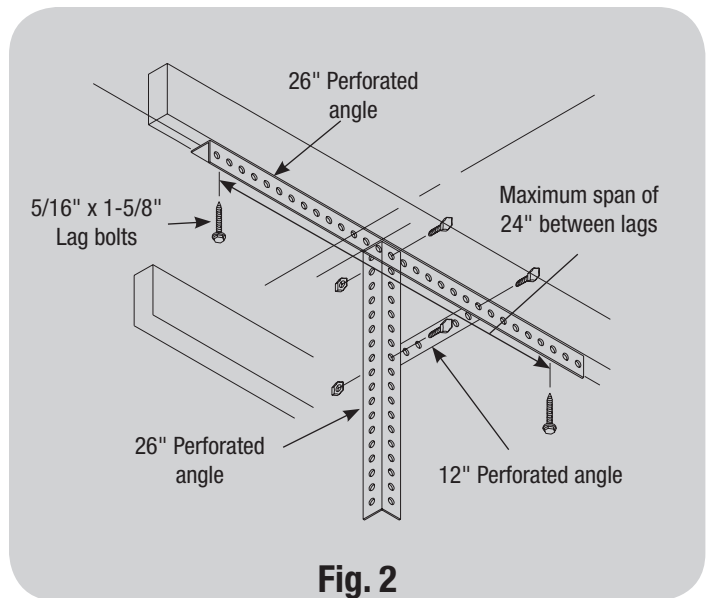

Fig. 2
**IF THE CEILING MEMBERS RUN PARALLEL TO THE DOOR**, align the 26" angles parallel to the door, centered over the horizontal track and under the ceiling member closest to the back end of the horizontal track. Fasten each 26" angle to the ceiling member with (2) 5/16"x1-5/8" lag bolts. (Fig. 2)